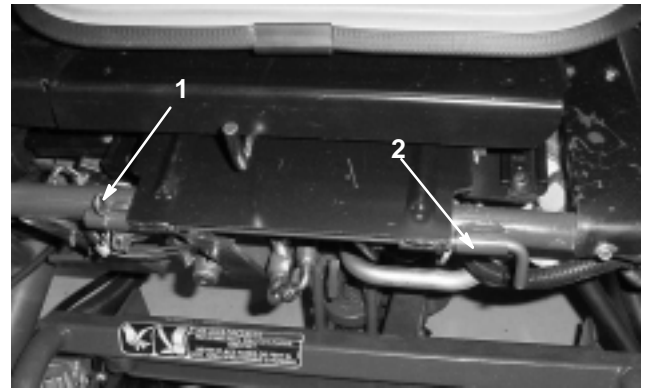

Figure 6
- Install the seat assembly in the operating position (Fig. 6). Install the seat pivot rod and cotter pin.